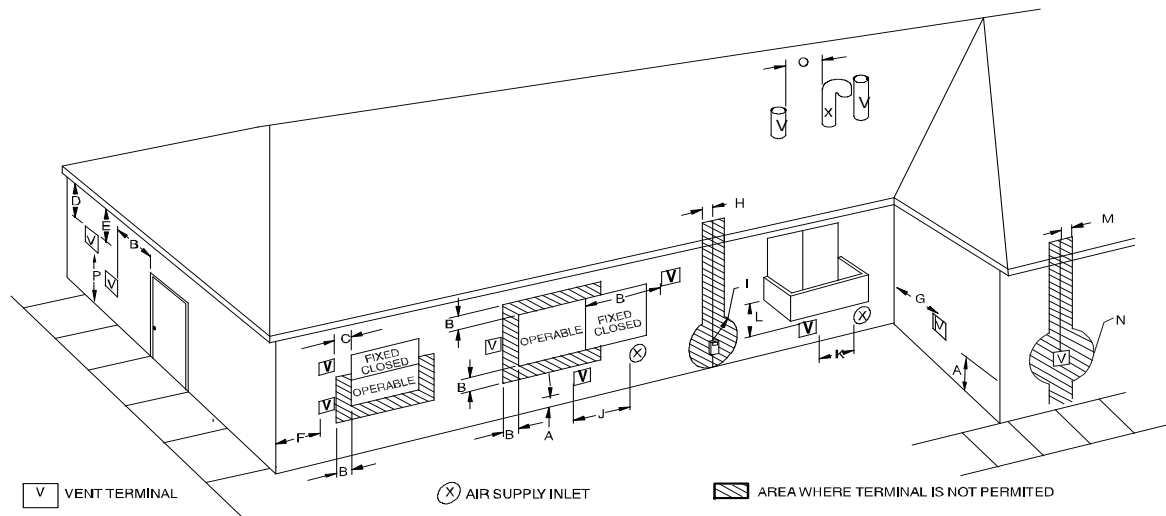
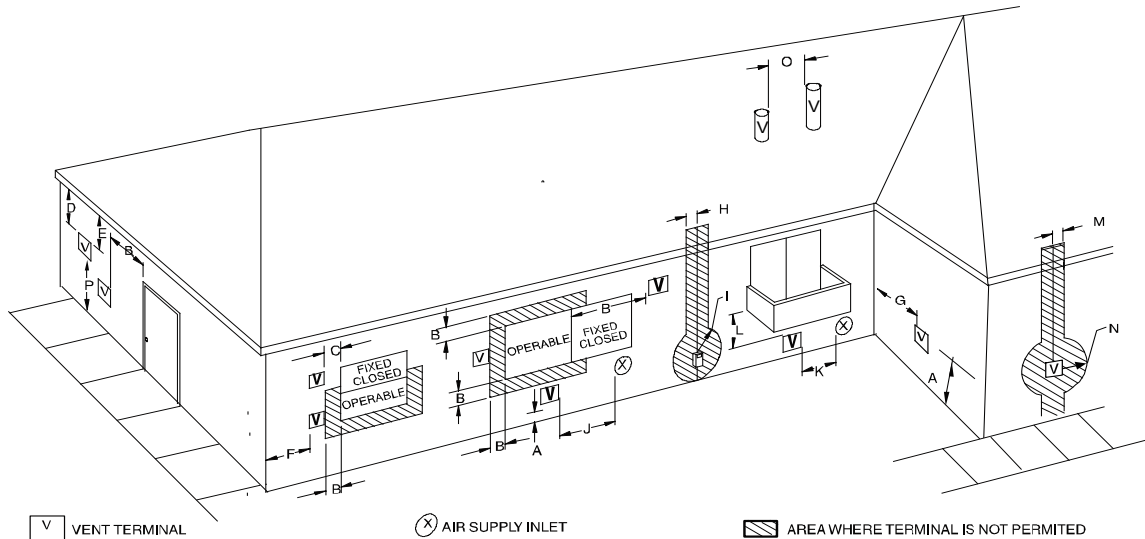
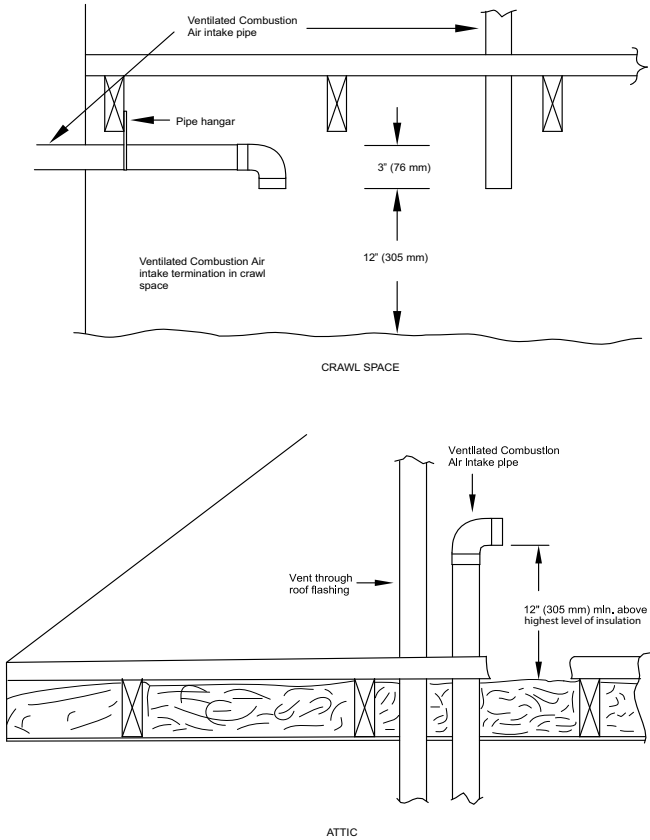

Fig. 43 – Direct Vent Termination Clearance
Fig. 44 – Ventilated Combustion Air and Non-Direct Vent Termination Clearance
Fig. 48 – Vent Terminations for Ventilated Combustion Air
In a direct vent (2-pipe) system, all air for combustion is taken directly from outdoor atmosphere, and all flue products are discharged to outdoor atmosphere. Combustion-air and vent pipes must terminate together in the same atmospheric pressure zone, either through the roof (preferred) or a sidewall. See Fig. 43 for references to clearances required by National code authorities.
In a ventilated combustion air option, the vent terminates and discharges the flue products directly to the outdoors similar to a direct vent system. See Fig. 44 for references to clearances required by National code authorities.
For vent termination clearance, references to National codes are shown in Fig. 43 for Direct Vent/2-Pipe system and Fig. 44 for Ventilated Combustion Air system. For exterior termination arrangements, refer to Fig. 40 for Direct Vent/2-Pipe system and Fig. 41 for Ventilated Combustion Air system. Contact Local code authorities for other requirements to and/or exemptions from the National codes shown in the figures.
1. Comply with all clearance requirements stated in Fig. 43 or Fig. 44 per application.
Direct vent (2-pipe) vent and combustion air pipes must terminate outside the structure. See Fig. 43 for references to vent clearances required by National Code Authorities. Allowable vent and combustion air terminations are shown in Fig. 40.
The vent pipe for a Ventilated Combustion Air System must terminate outdoors. See Fig. 44 for references to vent clearances required by National code authorities. Allowable vent terminations are shown in Fig. 41. The combustion air pipe terminates in a well-ventilated attic or crawl space. Follow the clearances as shown in Fig. 48.